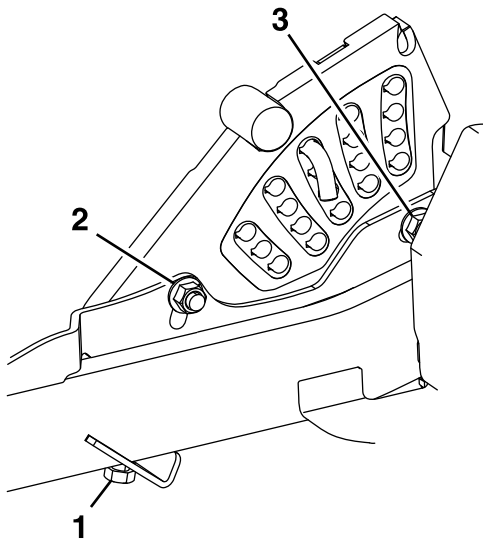

Figure 83
11. If the 4 deck adjusters do not have enough adjustment to achieve the accurate height of cut with the desired rake, you can adjust the single-point system (Figure 83).
12. To adjust the single-point system, first loosen the front and rear height-of-cut plate mounting bolts (Figure 83).
14. Tighten the 2 bolts at the bottom of the height-of-cut plate (Figure 83).